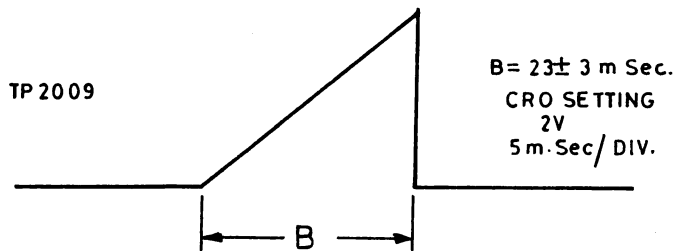

Fig. 11.10
4. Now confirm that the pulse width in the oscilloscope is 23 ± 3 m sec. as shown in fig. 11.10.